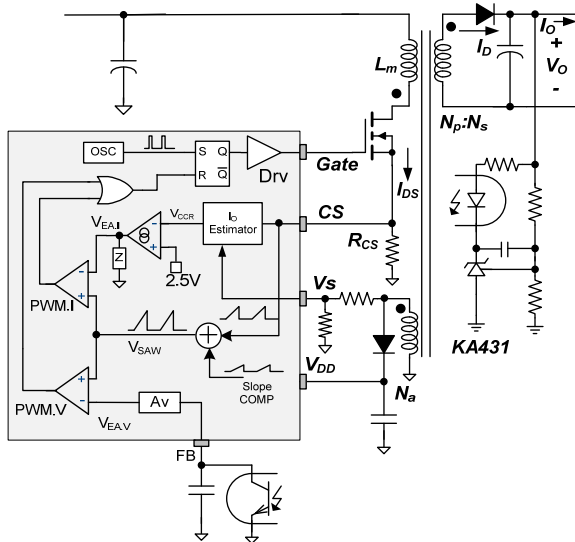
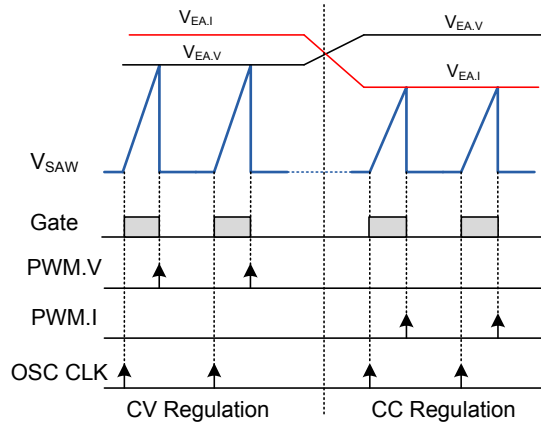

Figure 24. Internal PWM Control Circuit
Figure 25. PWM Operation for CC and CV
Figure 24 shows the internal PWM control circuit. The Constant Voltage (CV) regulation is implemented in the same way as in a conventional isolated power supply, where the output voltage is sensed using a voltage divider and compared with the internal 2.5 V reference of shut regulator (KA431) to generate a compensation signal. The compensation signal is transferred to the primary side using an opto-coupler and scaled down through an attenuator, A_V , generating $V_{EA,V}$ signal. Then, the error signal $V_{EA,V}$ is applied to the PWM comparator (PWM.V) to determine the duty cycle.
The two error signals, $V_{EA,I}$ and $V_{EA,V}$, are compared with an internal sawtooth waveform (V_{SAW}) by PWM comparators PWM.I and PWM.V, respectively, to determine the duty cycle. Figure 24 shows the outputs of two comparators (PWM.I and PWM.V) combined with OR gate and used as a reset signal of flip-flop to determine the MOSFET turn-off instant. Of $V_{EA,V}$ and $V_{EA,I}$, the lower signal determines the duty cycle, as shown in Figure 25. During CV regulation, $V_{EA,V}$ determines the duty cycle while $V_{EA,I}$ is saturated to HIGH. During CC regulation mode, $V_{EA,I}$ determines the duty cycle while $V_{EA,V}$ is saturated to HIGH.